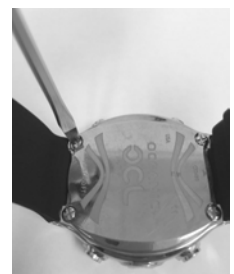

Fig. 140 - REPLACE SCREWS
- While holding the Battery Cover firmly in position against the back of the case, insert the (4) retaining screws and tighten them until secure by turning them clockwise with a small flat tip 3mm screw driver (Fig. 140). **DO NOT** over tighten.